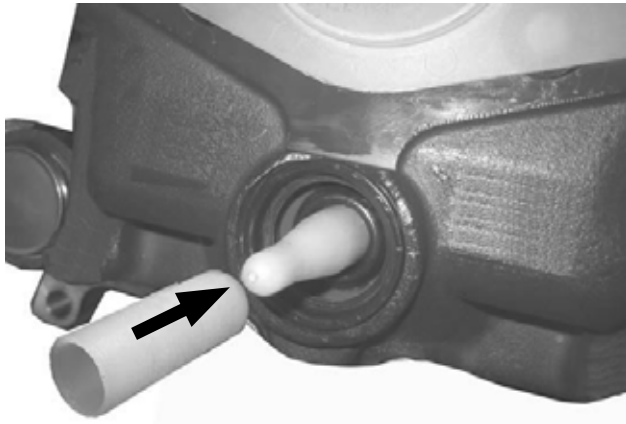

Figure 87: *Installing adjuster boot*
6. **Lightly grease** the new adjuster boot only at the inner boot bead as indicated in Figure 87 on page 34.